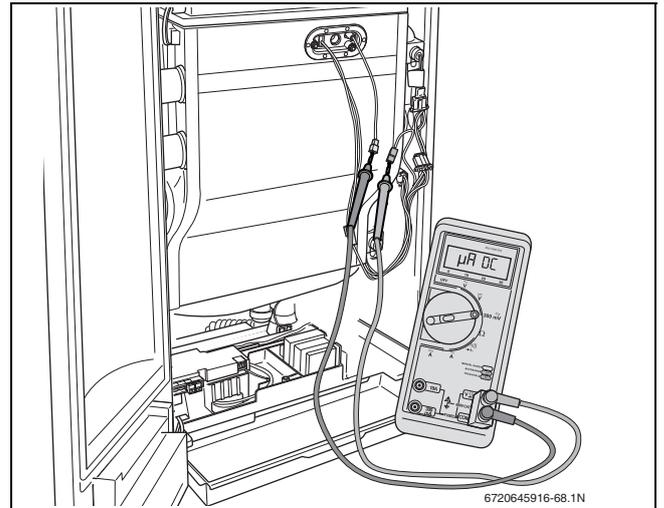

Fig. 72 Measuring the ionization current
- ▶ Connect the multi meter in series (→ fig. 72). Select the $\mu\text{A DC}$ range on the multi meter. The multi meter must have a resolution of at least 1 μA .